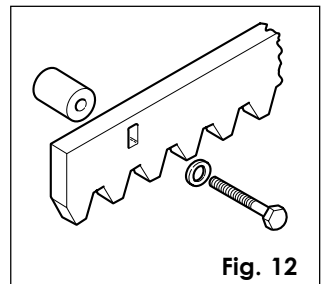

Fig. 12
4.4.2. STEEL RACK TO BE SCREWED (Fig.12)